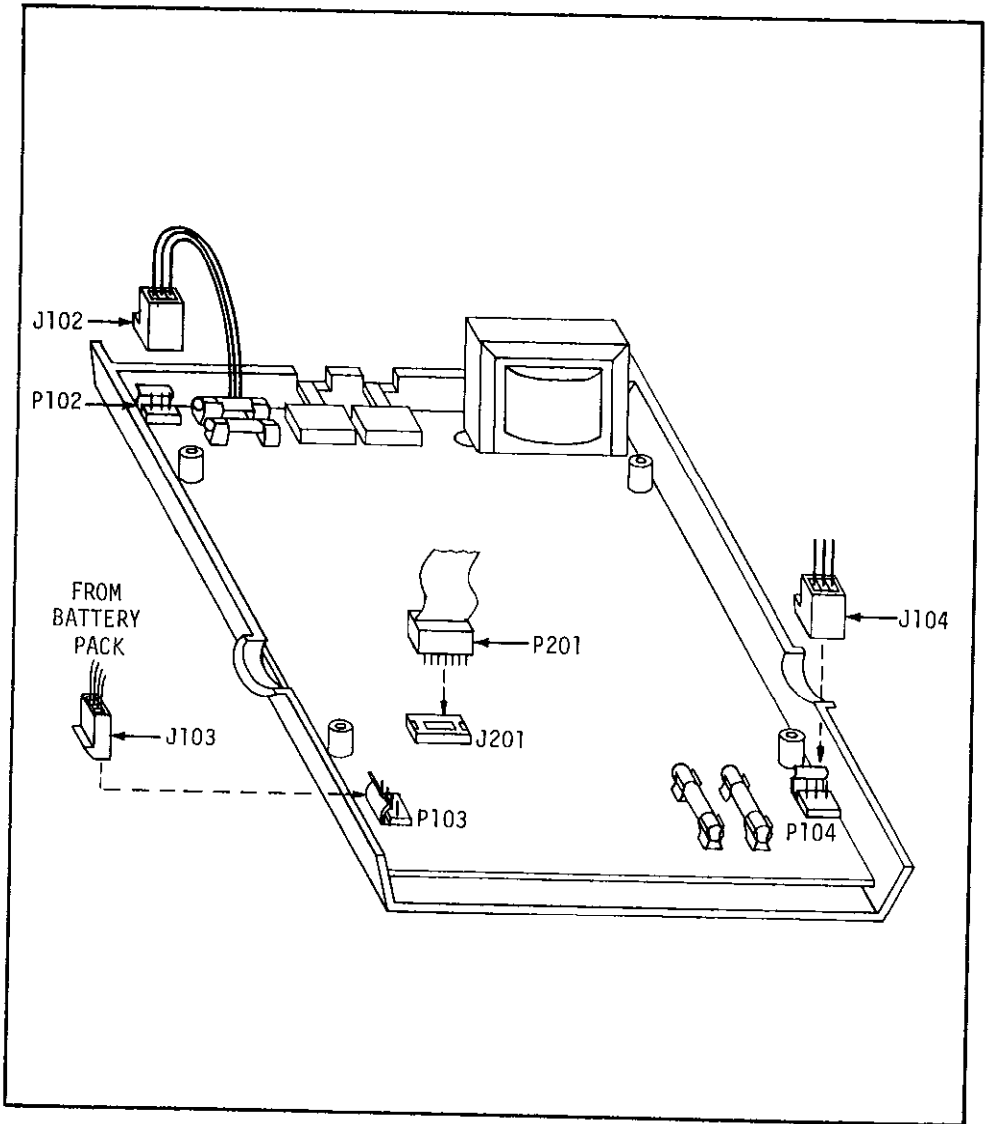

FIGURE 25. Location of Chassis Connections.
3) Line voltage cable J102 improperly connected to pc board at P102.	Check connection to pc board at P102. See Figure 25.